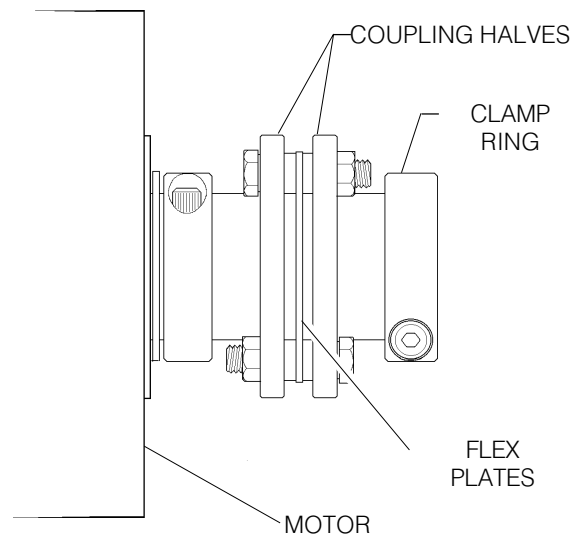

Fig. 10-2 Motor coupling components.
3. Visually inspect the flex plates to ensure they are parallel to the coupling halves and the slits in the coupling and clamp ring are in alignment (See Fig. 10-2). Tighten the 10-32 x 1/2" SHCS on the motor coupling at the lead screw. (Place a drop of blue Loctite® on the screw before inserting.)
3. Visually inspect the flex plates to ensure they are parallel to the coupling halves and the slits in the coupling and clamp ring are in alignment (See Fig. 10-2). Tighten the 10-32 x ½" SHCS on the motor coupling at the lead screw. (Place a drop of blue Loctite® on the screw before inserting.)